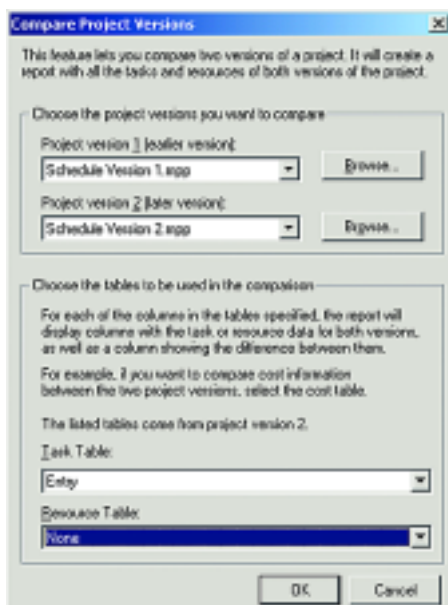

Figure 2: The Compare Project Versions dialog
6. Click the left-most button on the toolbar to open the Compare Project Versions dialog box as shown in Figure 2.